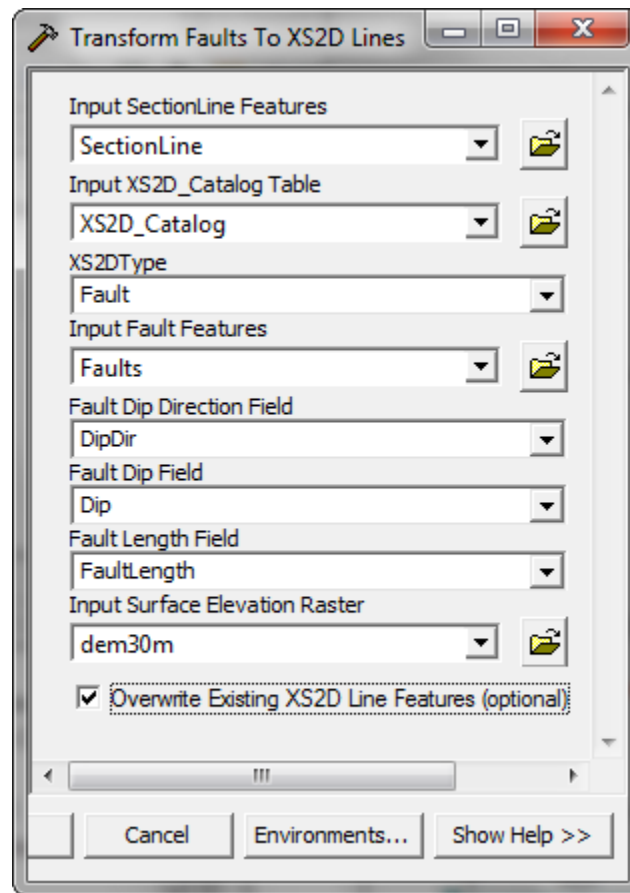

Figure 6 Settings for Transform Faults To XS2D Lines Tool.
9. Specify the parameters as shown in Figure 6.